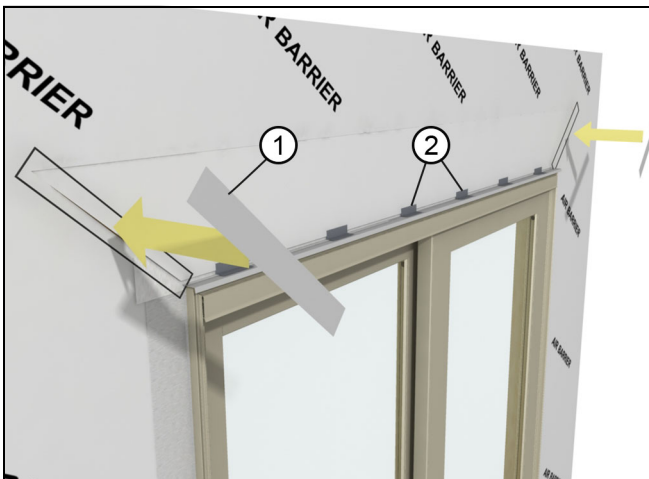

Figure 44
5. Fold the head jamb air barrier down over the head jamb flashing. Apply seam seal tape over the diagonal cut in the air barrier. Make sure the tape laps onto the unit or casing. Cut 3" (76) strips of tape and install every 12" (305) along the head jamb. Tape and seal any seams and fasteners directly above the unit. See Figure 44.